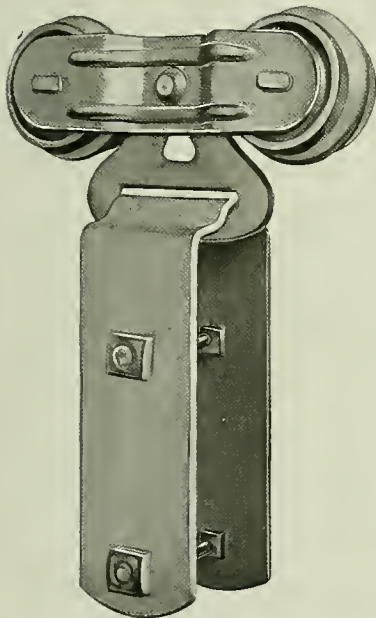

Fig. 902
Door Hanger Trolleys—Fig. 902
The supporting parts are of heavy malleable iron, riveted to the truck frame midway between the two wheels. This malleable support comes down just below the lips of the track and carries a broad steel strap which attaches to the door. This is the second point of flexibility in the Louden Bird-Proof Hanger, and allows the door to swing freely sidewise. (See Fig. 902.)
- The regular Bird-Proof Hanger, Fig. 902, or Bird-Proof Adjustable Hanger, Fig. 1052, operates in this track.